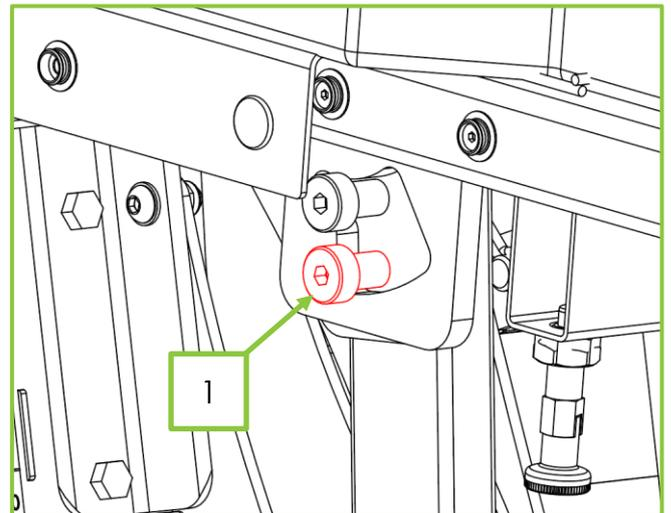

Figure 27
1. The chair is delivered with this function locked. Remove the lock bolts on both LHS and RHS side on the chair using an Allen key. Ensure the correct bolts (item 1 in Figure 27) are removed.